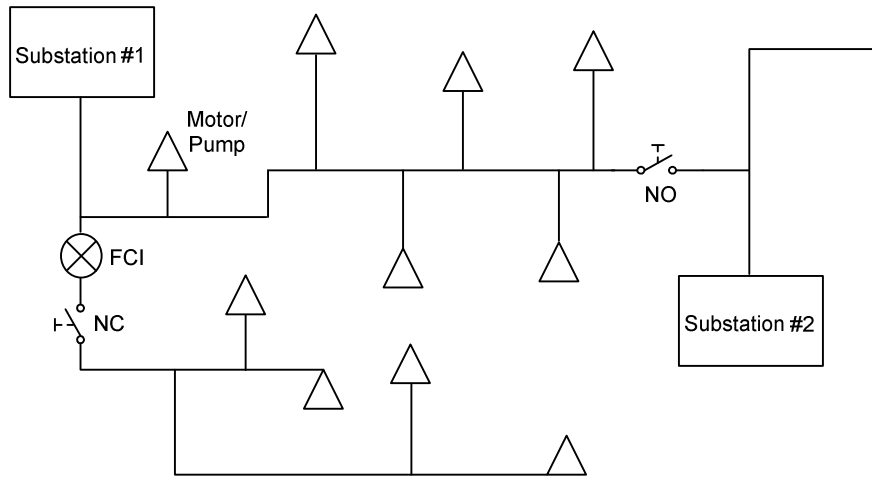

Figure 2 Overhead Distribution System With Two Substations and Two Disconnects
Figure 2 depicts an overhead distribution system with two substations and two disconnects, one normally open (NO) and one normally closed (NC). Historically, oil and gas companies have hired contractors to maintain their circuits as well as to locate faults on the distribution circuits. The contractors may not have extensive experience in fault finding. To aid in the fault-finding process, faulted circuit indicators (FCIs) can be applied to remove some of the challenges of locating faults. An FCI with high visibility, zero maintenance, easy installation, and system-wide adaptability is essential for oil and gas field applications.